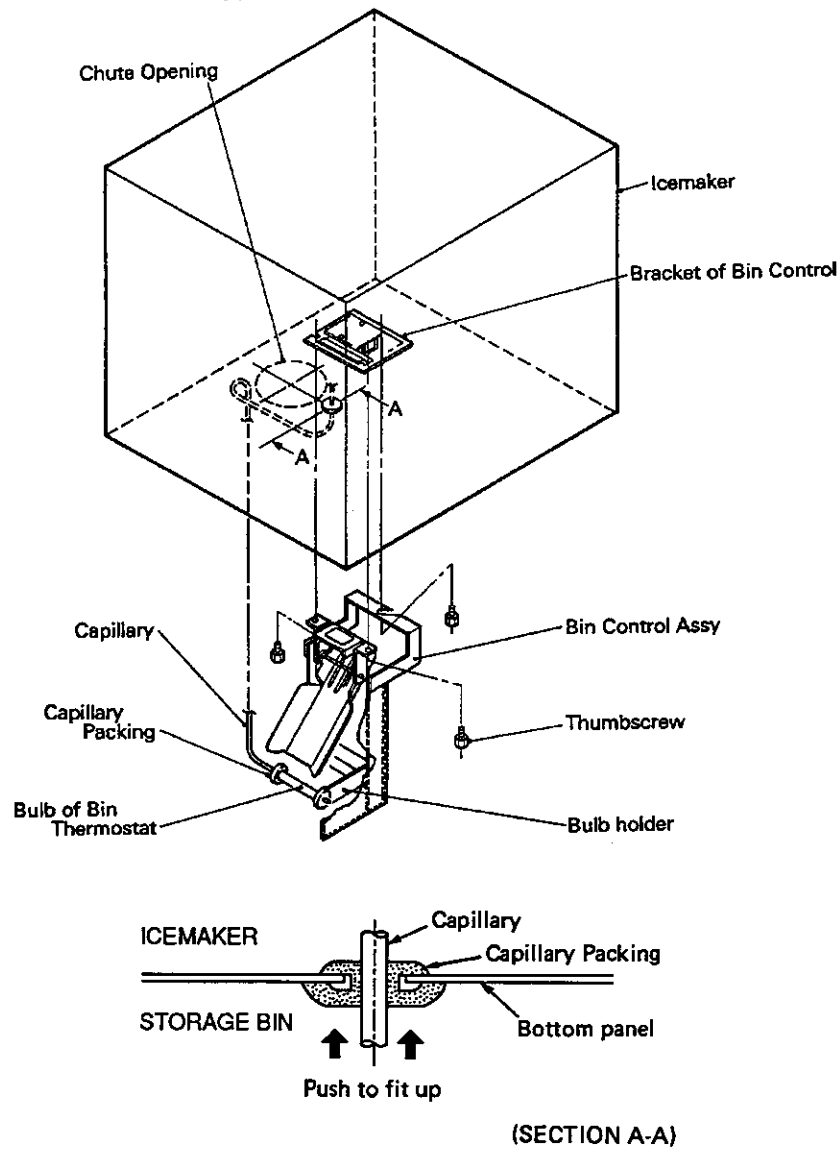

Fig. 3
5. INSTALLATION OF BIN CONTROL - See Fig. 3